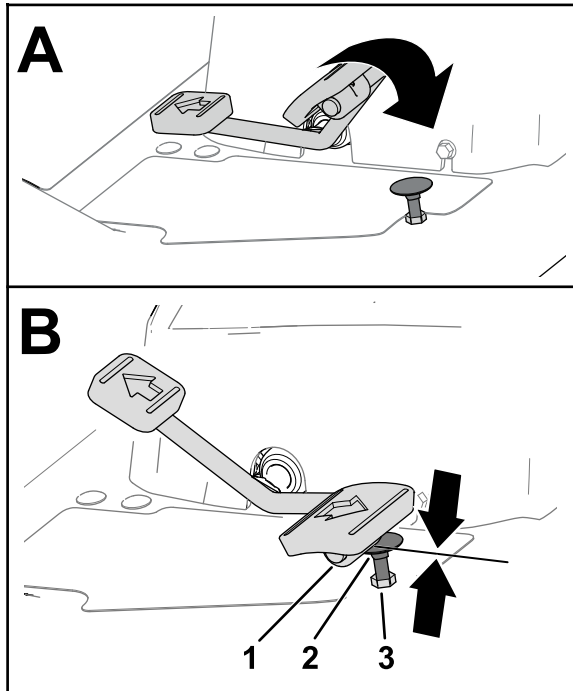
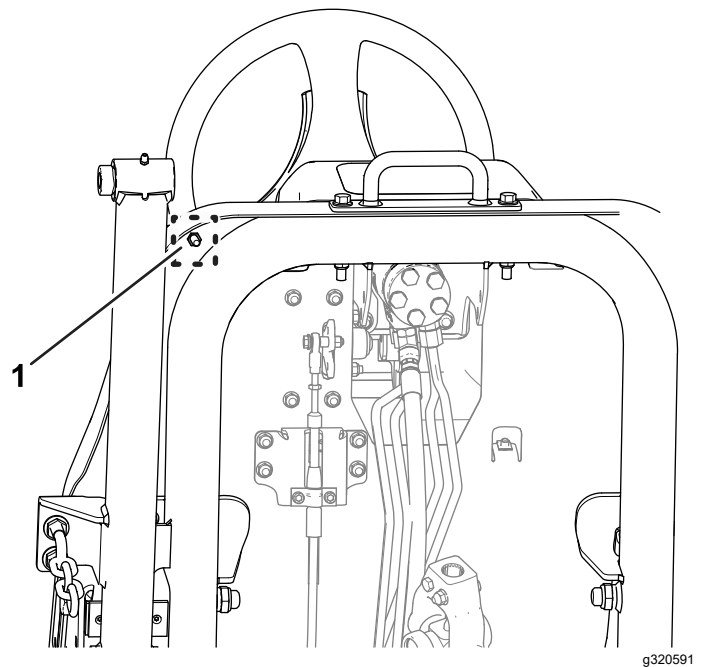

Figure 77
Figure 78
1. Move the traction pedal fully forward (Figure 77).
- A. Hold the traction-pedal stop (Figure 77) with a wrench.
- B. Loosen the jam nut at the bottom of the footrest plate (Figure 78).
- C. Move the traction pedal to the full forward position (Figure 77).
- D. While holding the traction-pedal stop, adjust the jam nut that is above the footrest plate (Figure 77) until the traction pedal makes contact with the stop.
- F. While holding the traction-pedal stop, torque the jam nut at the bottom of the footrest plate (Figure 77 and Figure 78) to 37 to 45 N·m (27 to 33 ft-lb).